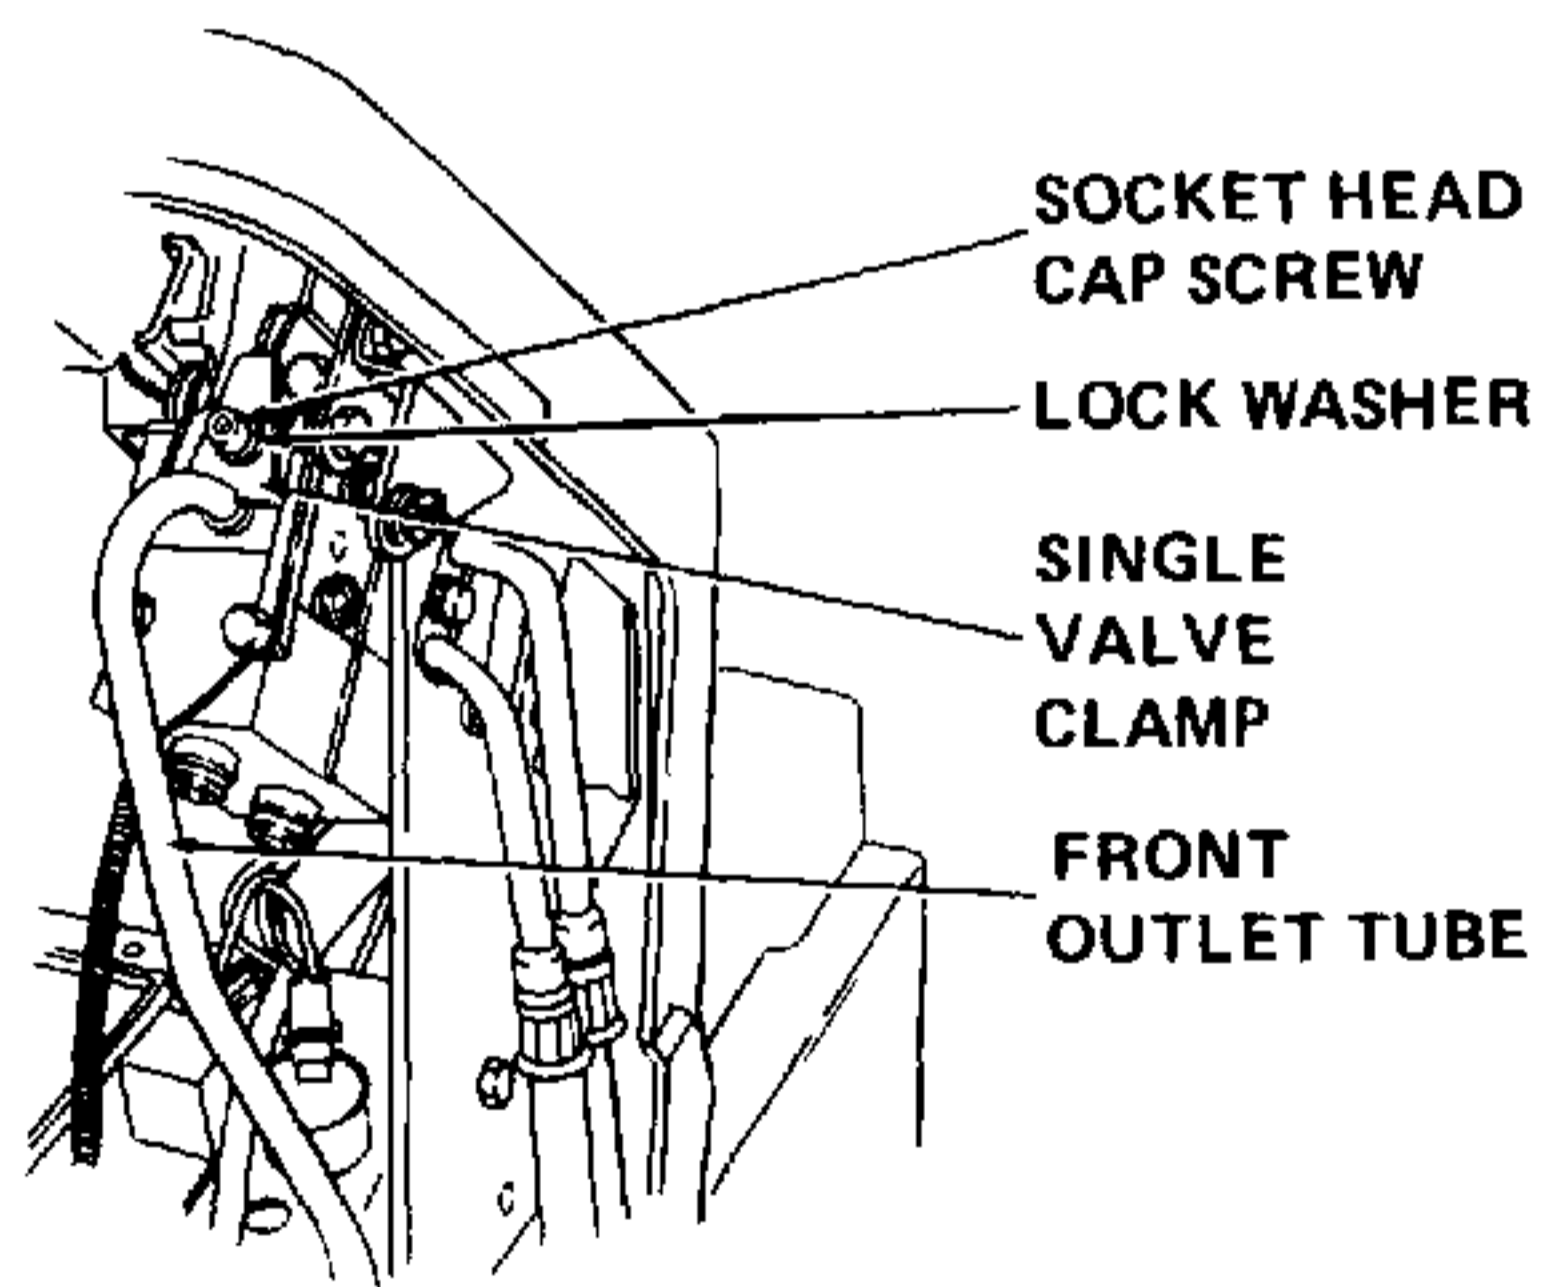

Figure 7-83. Installation of Front Outlet Tube (Models 1541, 1862, 1882 and 2082 Only).
- d. Place upper end of front outlet tube in top port of the hydraulic valve and loosely attach with the spindle valve clamp, lock washer and socket head cap screw retained in step 7-5.3.1. Refer to Figure 7-83.